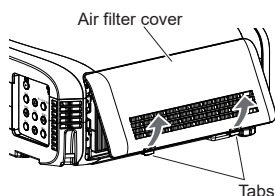

Fig.1
2) Remove the air filter cover. (Fig. 1)